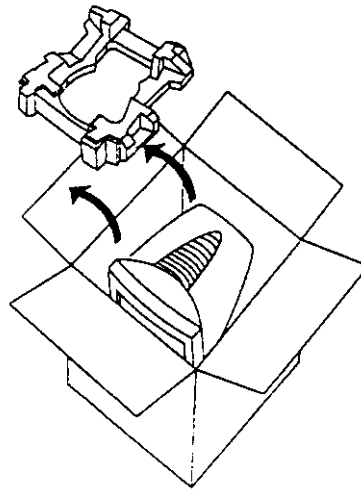

Figure 1
2. Remove the monitor from its shipping carton(see figure 1).